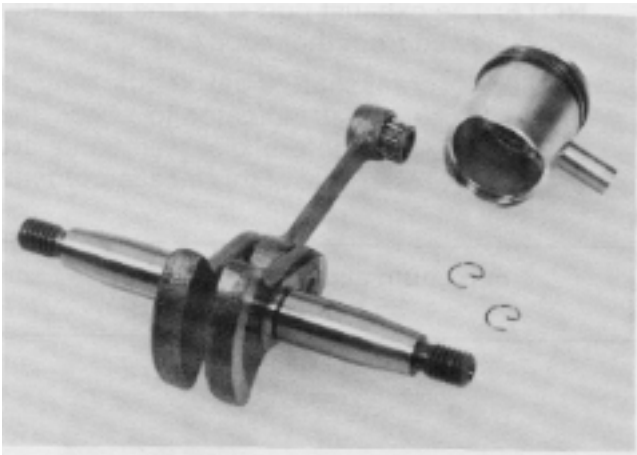

Figure 91
11. Carefully push out the piston pin and lift the piston from the connecting rod. See Fig. 91. The connecting rod cannot be removed from the crankshaft. Note the position of the dot on the head of the piston. Reinstall the piston with the dot in the same direction.